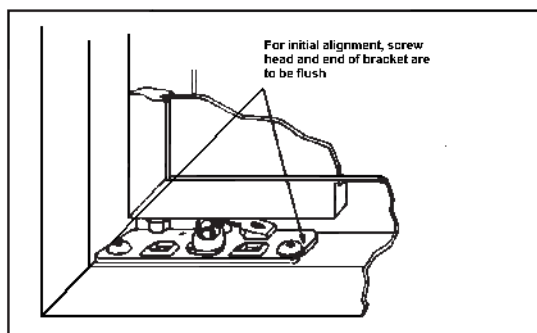

Figure 12
4. For proper alignment of the bottom mounting plates of the Mullions, both ends of the plate should be flush with both mounting plate screws. Refer to Figure 12.